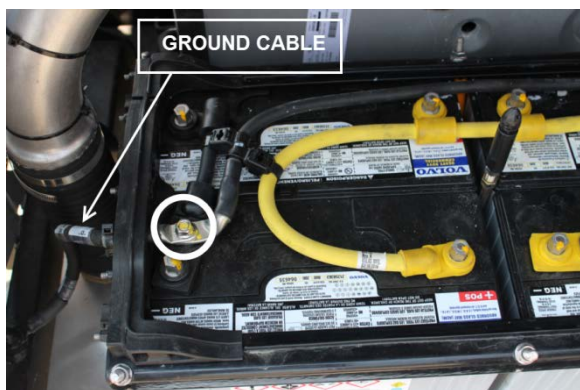

FIGURE 42: DISCONNECT GROUND CABLE FIRST
2. Disconnect the ground cable first (FIGURE 42).